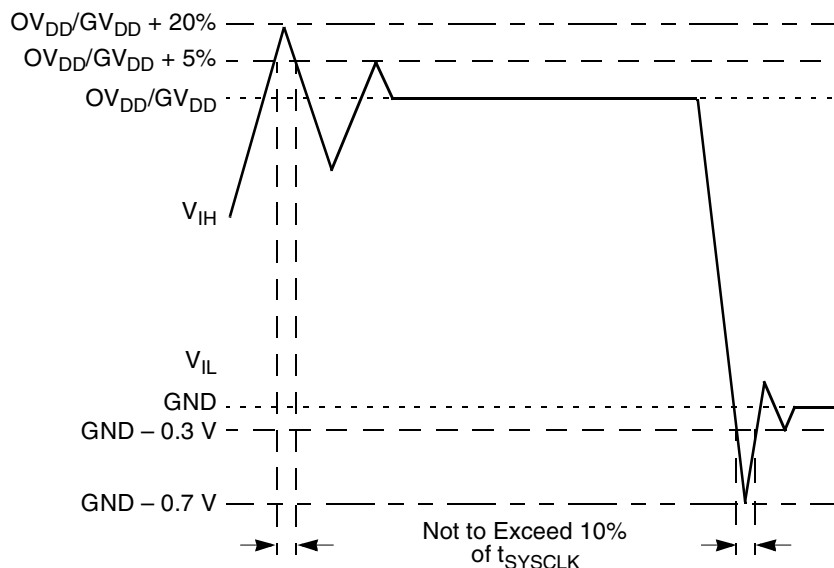

Figure 2. Overshoot/Undershoot Voltage
5. V_{in} may overshoot/undershoot to a voltage and for a maximum duration as shown in Figure 2.
Figure 2 shows the overshoot and undershoot voltage on the MPC7455.